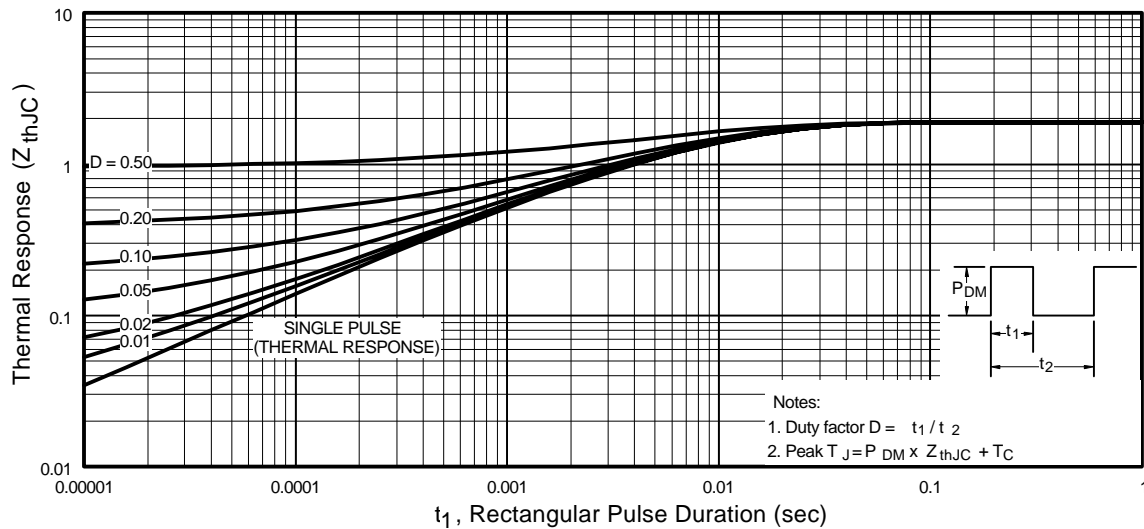

Fig 11. Maximum Effective Transient Thermal Impedance, Junction-to-Case
- ① Repetitive rating; pulse width limited by max. junction temperature. (See fig. 11)
- ② Starting $T_J = 25^\circ\text{C}, L = 3.7\text{mH}$